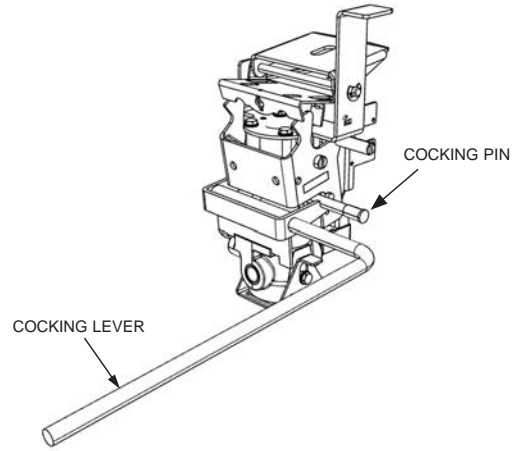

FIGURE 5-32
▶ 10. Insert cocking lever (Part No. 441042 or Part No. 441041) on left side of the release mechanism, with the movable flange resting securely against the corner of the cartridge receiver and spring housing, and with the notched lever portion engaging the cocking pin on **both** sides of the release mechanism. See Figure 5-32.